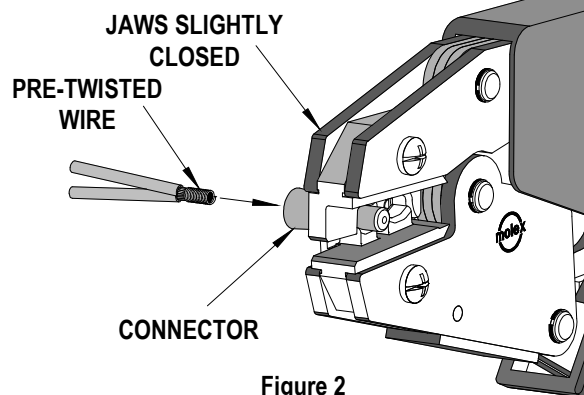

Figure 2
2. Close the hand tool jaws until the connector is held snug in place. Load the connector with the desired wire combination. See Figure 2 and 3. Complete the crimp by closing the hand tool handles until they release.